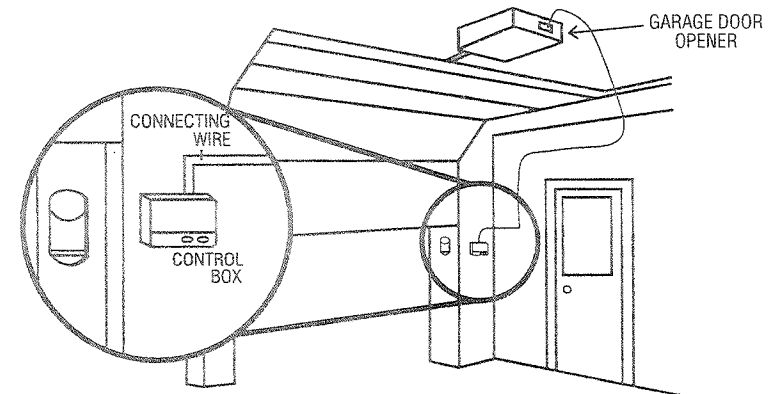

Fig. 2
The Domino System consists of two parts: a permanently outside mounted keypad with a telephone type cable connecting to a **control box**, which is located inside the garage. The control box powers the keypad with 3 "AA" alkaline batteries (included), and sends the open, close, or stop signal to the garage door opener through two low voltage connecting wires (not included). (fig. 2)
2. **Inside:** Disconnect power to garage door opener. Using two low voltage (18-24 gauge) wires, connect the control box to push button terminals on opener. (fig. 2)